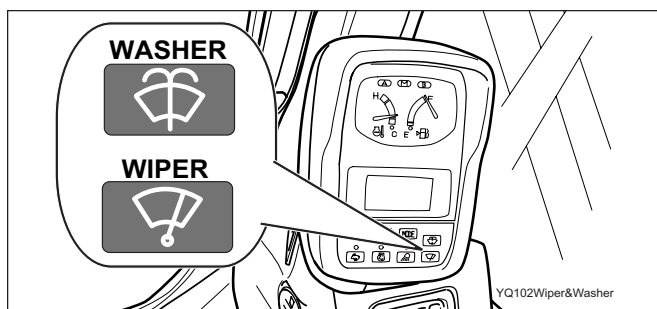

FIGURE 2.7B
4. Wiper & Washer Switch– FIGURE 2.7B